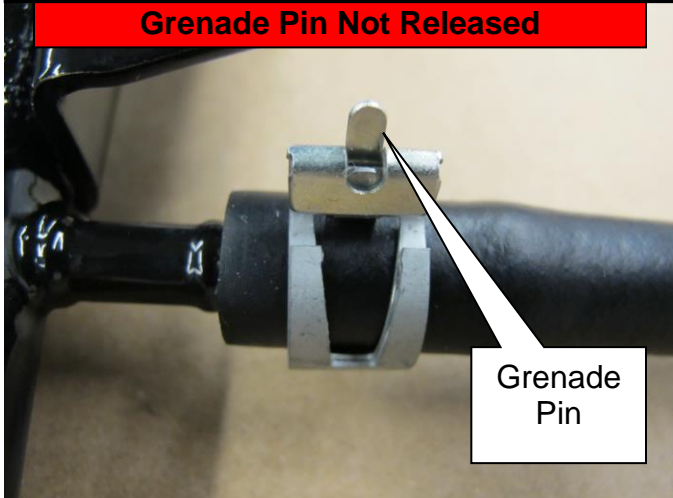

Figure 13
- Grenade pin not released (Figure 13).